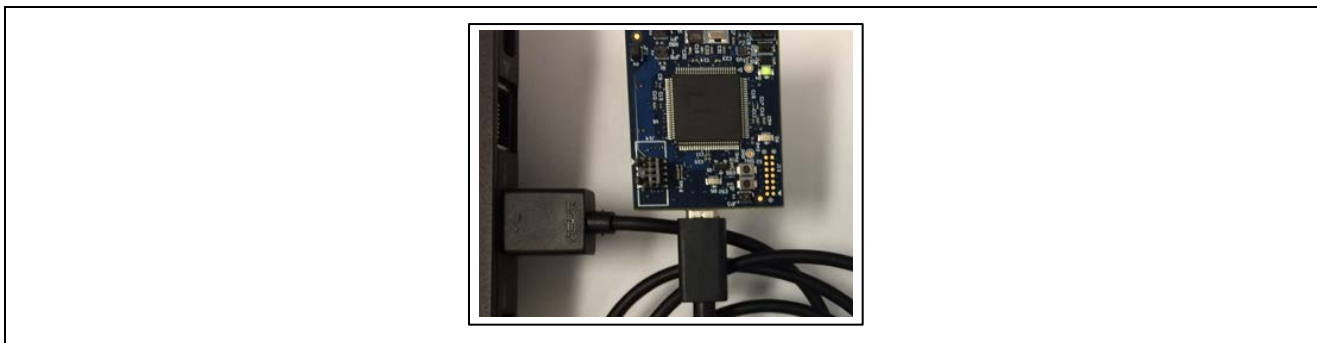

Figure 13 S3A7 board programming setup with on-board J-Link
- Figure 13 shows how to setup using the on-board J-Link debugger/programmer. It does not show the S3A7 board mounted on an Application base board.